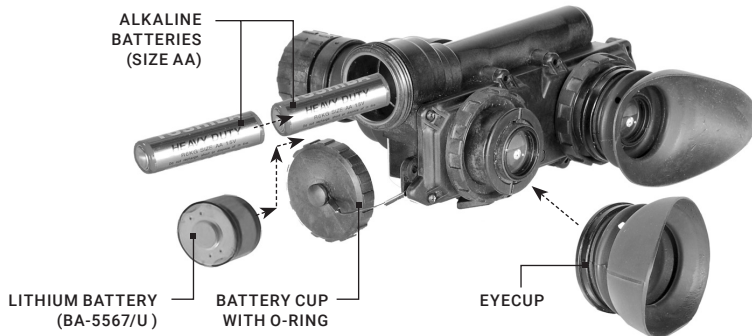

FIGURE 2-2. BATTERY AND EYECAP INSTALLATION
3. Following the polarity markings on the outside of the battery compartment, insert either two AA (1.5 V) batteries or one BA-5567/U Lithium (3.0 V) battery into the battery compartment, positive (+) end first (see Figure 2-2).
To install the eyecups (refer to Figure 2-2):